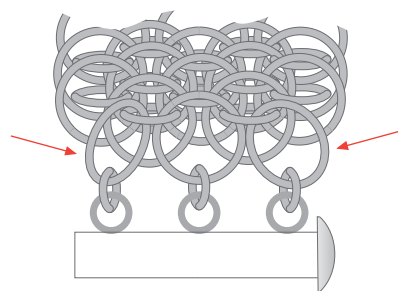
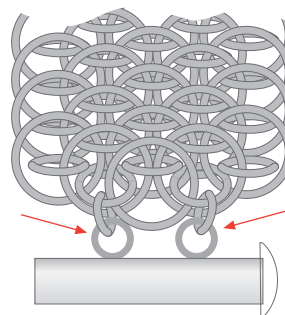

FIG. 15
FIG. 16
**Dragonscale** The edge jump rings of the Dragonscale weave tend to be unstable, just as the jump rings on the edges of the European 4-in-1 Weave (FIG. 15). Use the following instructions to taper the ends of Dragonscale and attach the clasp to the more stable small jump rings of the inner rows (FIG. 16). Use a multiple-strand clasp that has the same number of attachment loops as the number of small jump rings of the inner rows.